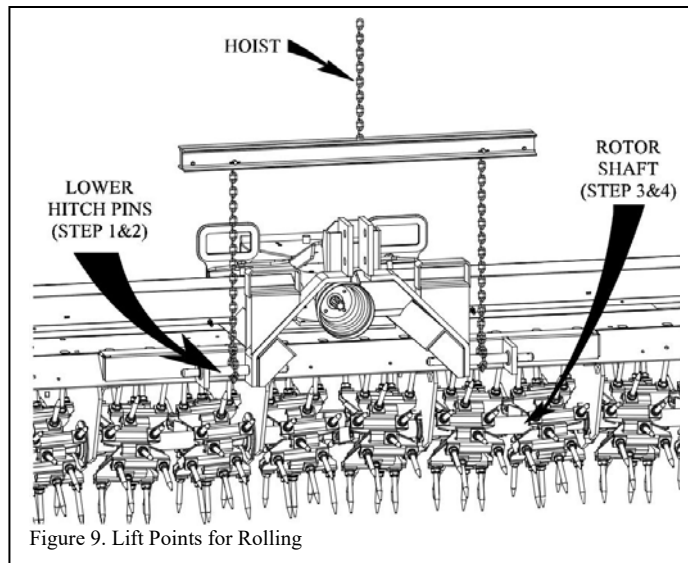

Figure 9. Lift Points for Rolling
1. Attach chains to lower lift pins and connect hoist to center as shown (Fig. 9).
6. Hook bridle chain into center lift eyes (Fig. 9) and lift back into upright position.